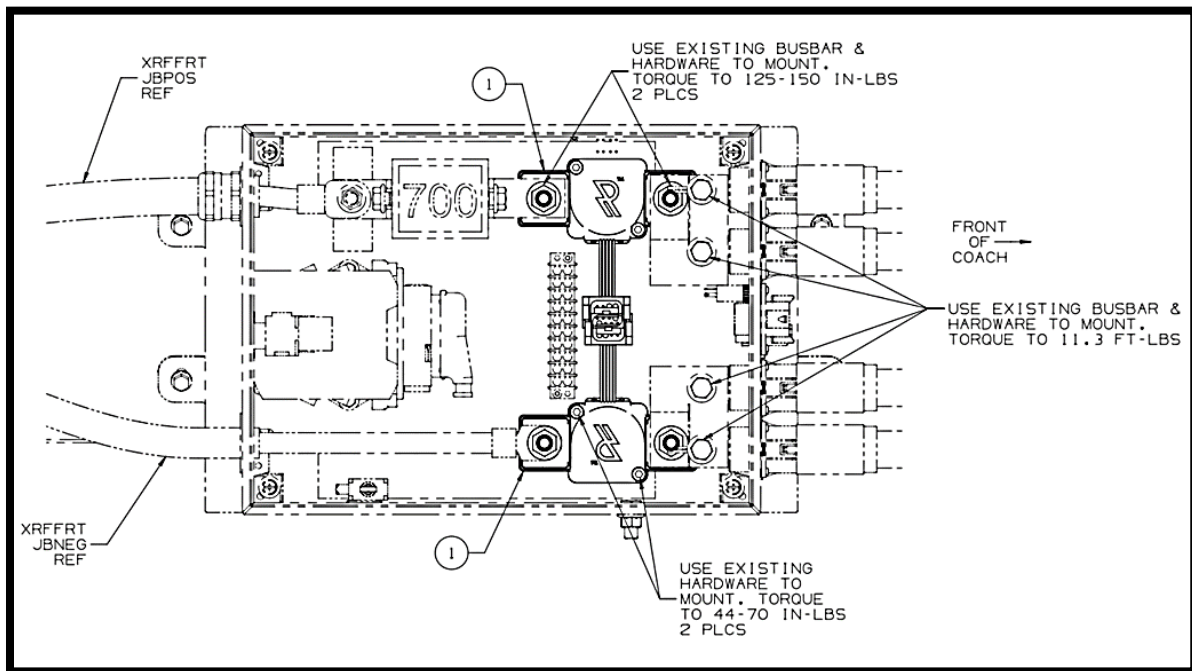

Figure 5 - New contactor installation
- 2.9. Secure each contactor using two M6 mounting bolts that were removed in line 2.7. Torque bolts to 44-70 IN-LBS (refer to figure 5).
- 2.10. Reconnect each contactor to its corresponding HV connections using the M12 Nuts removed in line 2.6. Torque bolts to 25-150 IN-LBS (see figure 5).